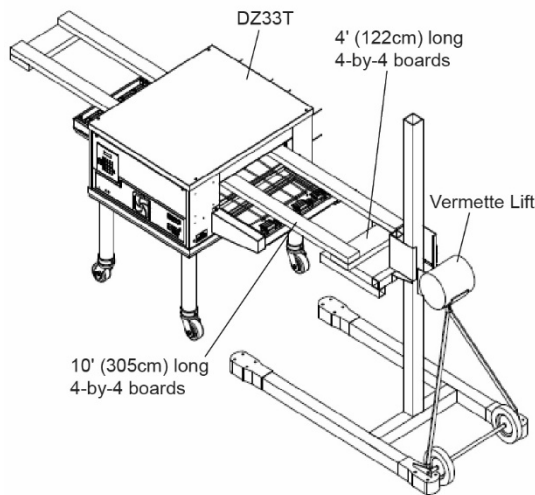

Figure 19.
sticking out of the oven equally on both sides. One of the boards should be placed to the rear of the oven and the other in the front of the oven. See Figure 19.
4. Position the two Vermette lifts on opposite ends of the oven under the 10' (305cm) boards, making sure the legs with wheels are up as close as possible to the skid. Place the two 4' (122cm) long 4-by-4 boards across the two Vermette forks, at least 6" (15cm) in from the end of the forks, and centered with the 10' (305cm) boards running through the oven cavity. See Figure 19.
- Slide the two 10' (305cm) long 4-by-4 boards through the oven cavity. The boards should be sticking out of the oven equally on both sides. One of the boards should be placed to the rear of the oven and the other in the front of the oven. See Figure 19.
- Position the two Vermette lifts on opposite ends of the oven under the 10' (305cm) boards, making sure the legs with wheels are up as close as possible to the skid. Place the two 4' (122cm) long 4-by-4 boards across the two Vermette lift forks, at least 6" (15cm) in from the end of the forks, and centered with the 10' (305cm) boards running through the oven cavity. See Figure 19.